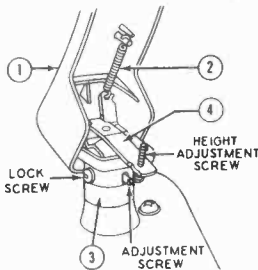

Fig. 6
- a. Slide Control Button (7) to "ON-REJECT" position and allow changer to start cycling momentarily then slide Control to "OFF" position. Continue the change cycle by revolving the turntable by hand until Pick-up Arm (1) is about to land on the record. At this point the Sweep Lever and Pin (38) is still securely held by the groove in the Main Cam (32), thus retaining all the working parts in their correct relationship.
- b. Loosen Lock Screw on Hub Sleeve (See Fig. 6).
1. Lift Pick-up Arm (1) and note Height Adjustment Screw (see Fig. 6). Loosen the Lock Nut on this screw.
2. Adjust screw to lower or raise Pick-up Arm (1).